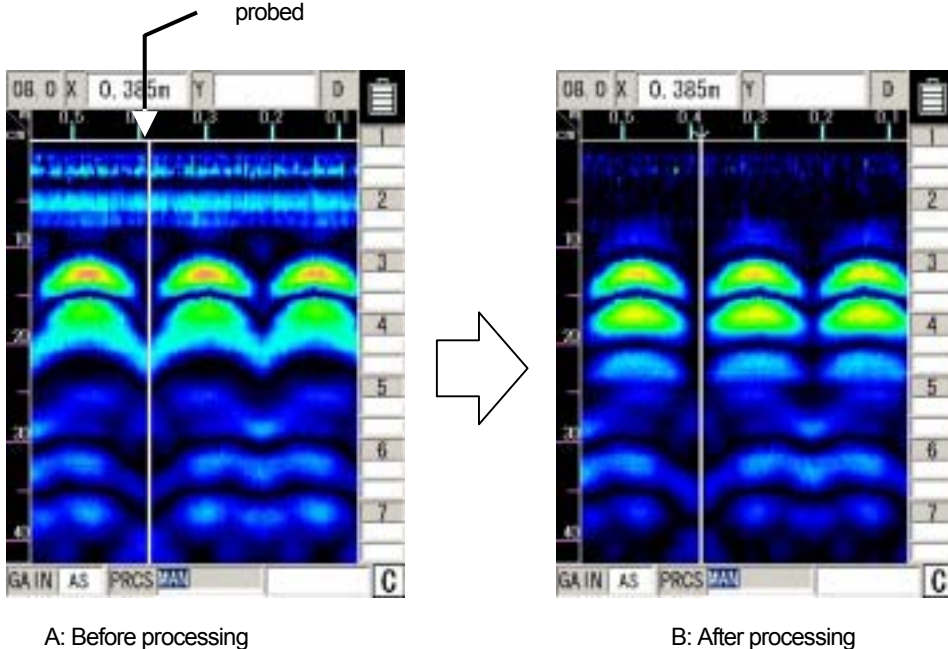

Figure 3-12 Display before/after Manual Surface Wave Processing
Manual surface wave processing is used when the effect of reflection near the surface of the concrete on the scanning results can not be completely removed. (See Figure 3-12.)
- c) Use the cursor keys **◀▶** to move the cursor to a location where there is not a object to be probed in the sense test results. (See Figure 3-12 A-(1))